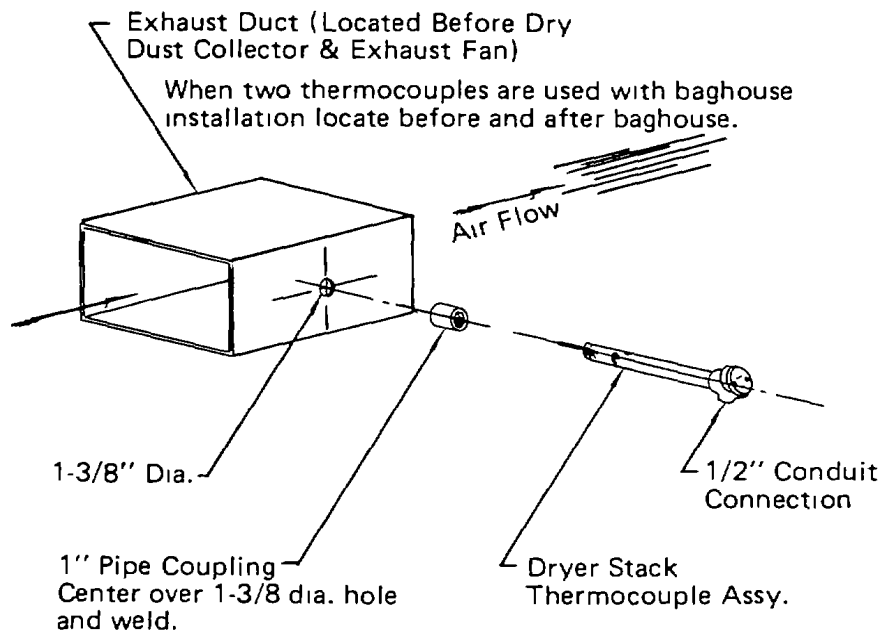

Fig. 1-Drawing showing placement of thermocouple In exhaust duct.
4. Install the Hauck stack temperature thermocouple, as applicable, in the dryer exhaust duct to sense exhaust gas temperatures. Install the thermocouple as detailed in figure 1.